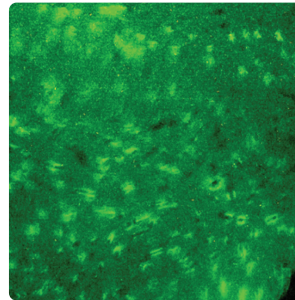
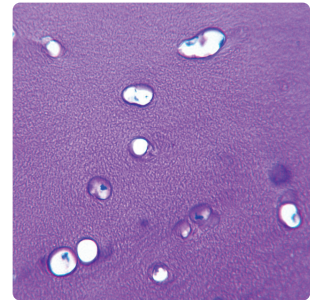

Figure 1: Immunohistochemistry staining for type II collagen
Figure 2: Proteoglycan content as evidenced by the presence of interterritorial granular matrix via toluidine blue staining
- › BioCartilage extracellular matrix (ECM) contains the ECM that is native to articular cartilage, including key components such as type II collagen (Figure 1), proteoglycans (Figure 2), and additional cartilaginous growth factors.